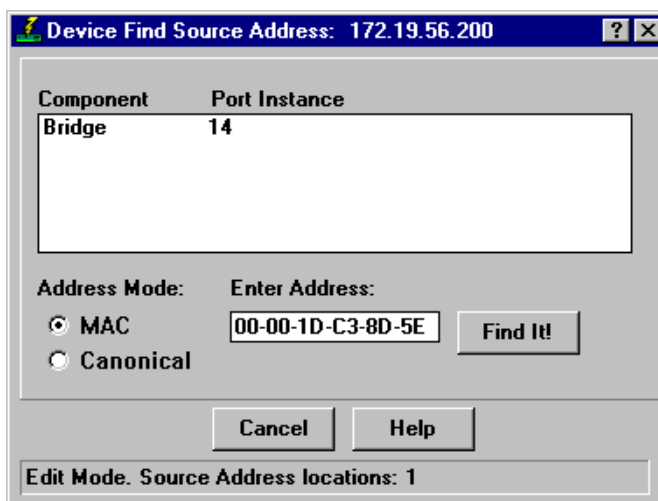

Figure 2-12. Device Find Source Address Window
2. Click on **Device Find Source Address**. The Device Find Source Address window, as shown in Figure 2-12, will appear.
2. Click to select **Device Find Source Address**. The Device Find Source Address window, as shown in Figure 2-12, will appear.